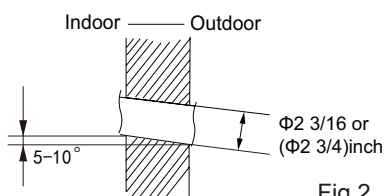

Fig.2
(2) Open a piping hole with the diameter of Φ2 3/16(Φ2 3/4) inch on the selected outlet pipe position. In order to drain smoothly, slant the piping hole on the wall slightly downward to the outdoor side with the gradient of 5-10°. (As show in Fig.2)